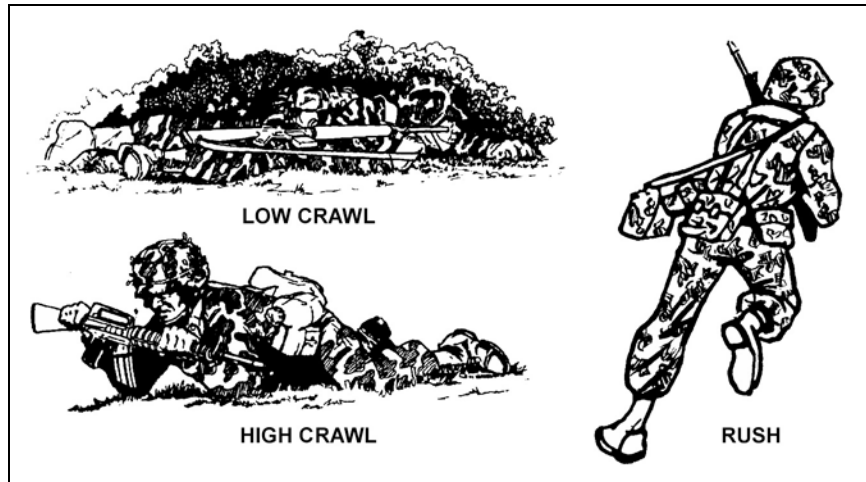

Figure F-1. High and low crawl (L) and rush (R).
a. Individual movement training should include high and low crawl techniques, the difference between cover and concealment, and short rush techniques (Figure F-1). FM 21-75 explains the proper movement techniques. Squad leaders can designate a lane through various types of terrain and have soldiers move from one end to the other. Squad leaders should evaluate the soldiers' performance based on the use of cover and concealment, length of exposure to enemy fire, and speed of movement. As soldiers master these basic skills, leaders can add challenges with natural or manmade obstacles or add the use of MILES with a single enemy soldier at the far end of the lane. The squad member must negotiate the lane without taking enemy fire.